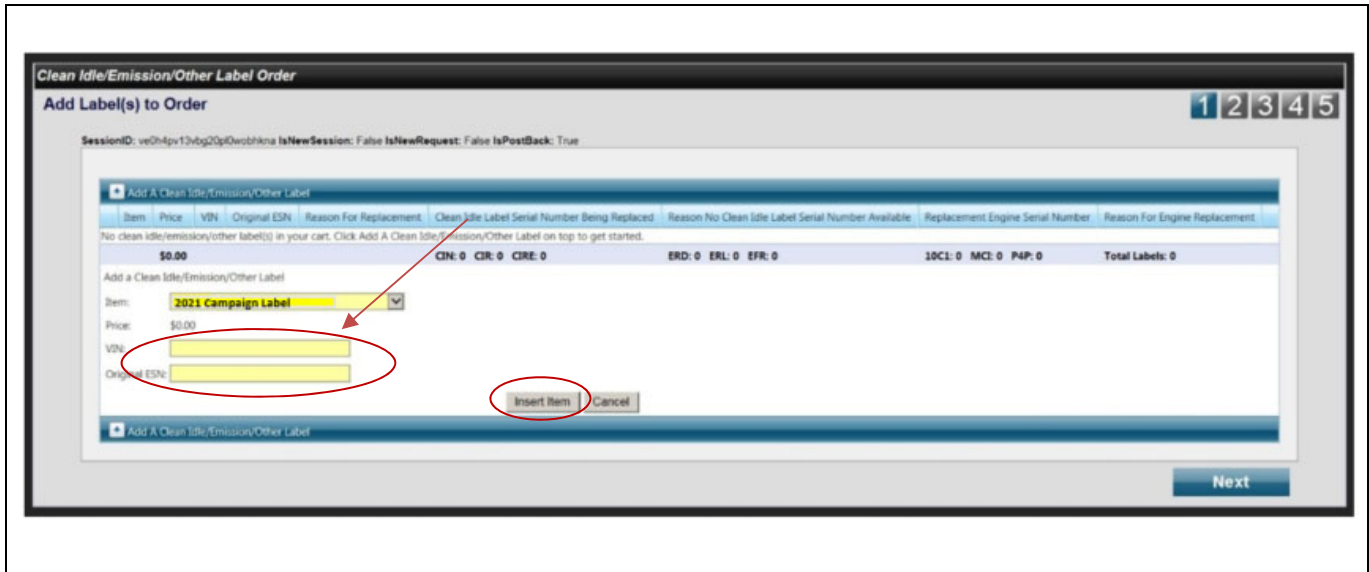

Fig. 12, Emission Label Ordering Process
3. Complete the "VIN" and "Original ESN" fields and select "Insert Item." See Figure 12.